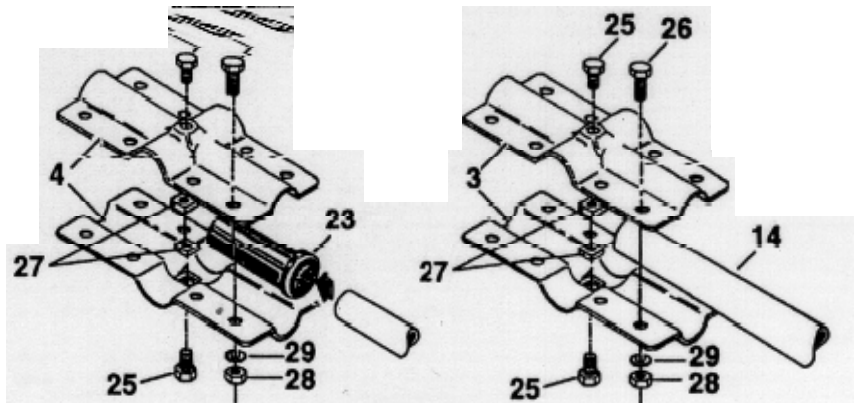

Figure 2
Assemble the brackets as shown in Figure 2 and position them on the boom as shown in Figure 8. It is easier to assemble the brackets on the boom at the correct location, rather than try to slide them on the boom. If you are going to leave this assembly unattended for more than 15 minutes, we suggest that you tighten the eight (8) bolts on each bracket, so that they do not vibrate off. Do not tighten the two (2) anchor bolts (Item 25) until the elements are installed and aligned.